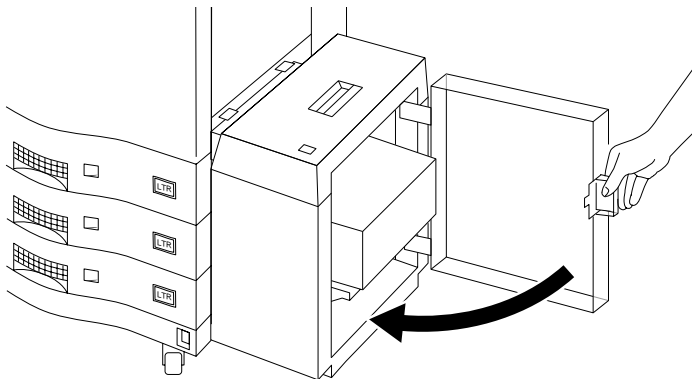

Figure 4-71 Closing the HCI Door
4. Push the HCI against the printer to lock it into place. Add paper to the HCI and close the HCI door, as shown in Figure 4-71.